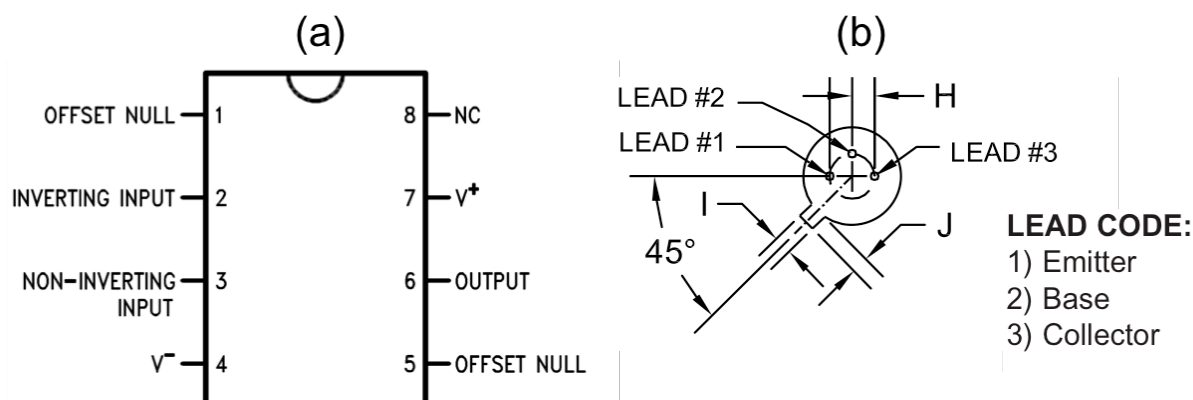

Figure 2 – The pin-out for (a) the LM741 Op-Amp and (b) the NPN transistor.
2. Sketch the pin-outs shown in Fig. 2.
3. Construct the circuit on the breadboard. Refer to the pin-outs in Fig. 2. The thermistor should still be in thermal contact with the heater.